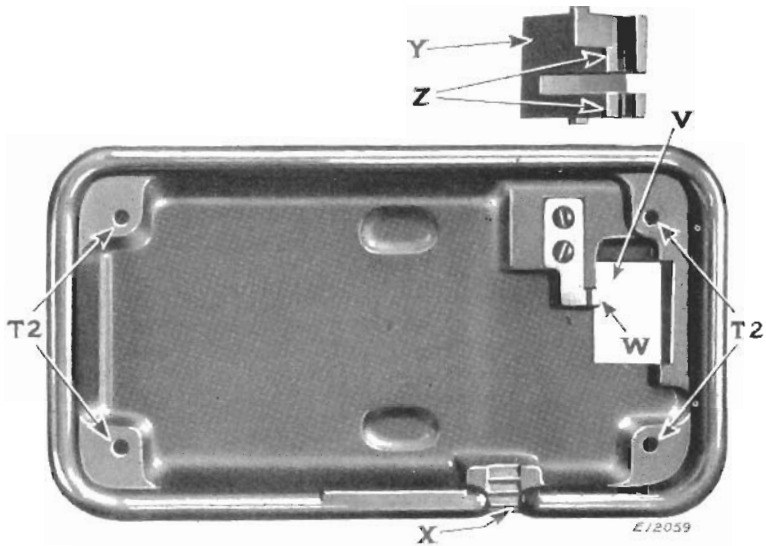

FIG. 29. INSIDE VIEW OF COVER OF BAKELITE CONVERTIBLE FOOT AND KNEE CONTROLLER—SHOWING PEDAL DISENGAGED FROM COVER
**Convertible Foot and Knee Controller.** Remove the complete controller and leads from the cabinet. Remove the four screws which fasten the cover, Fig. 29, to the base, Fig. 27, at (T2). If, after removal of these four screws, the cover adheres tightly to the base, **do not attempt to pry it off, as such procedure would mar or break the cover or base or both.**
With the four fastening screws removed, hold the controller in the left hand and, with the right hand, press the pedal (Y, Fig. 29) all the way down. This will disengage the base from the cover. Inspect the wires and connections at (D, Fig. 27).
(See Fig. 29.) Probably the pedal (Y) became separated from the cover as the latter was removed from the controller base. Note that its replacement in the cover is not possible except in the correct manner, viz: Insert from the inside of the cover and with one of the two long projections (Z) against the metal guide (W).